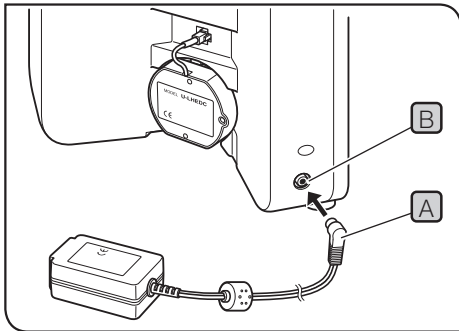

Fig.66
**12 Attaching the AC adapter** (Fig.66)
- 1 Insert the connector **A** of the AC adapter firmly into the connector **B** on the microscope. (Fig.66)